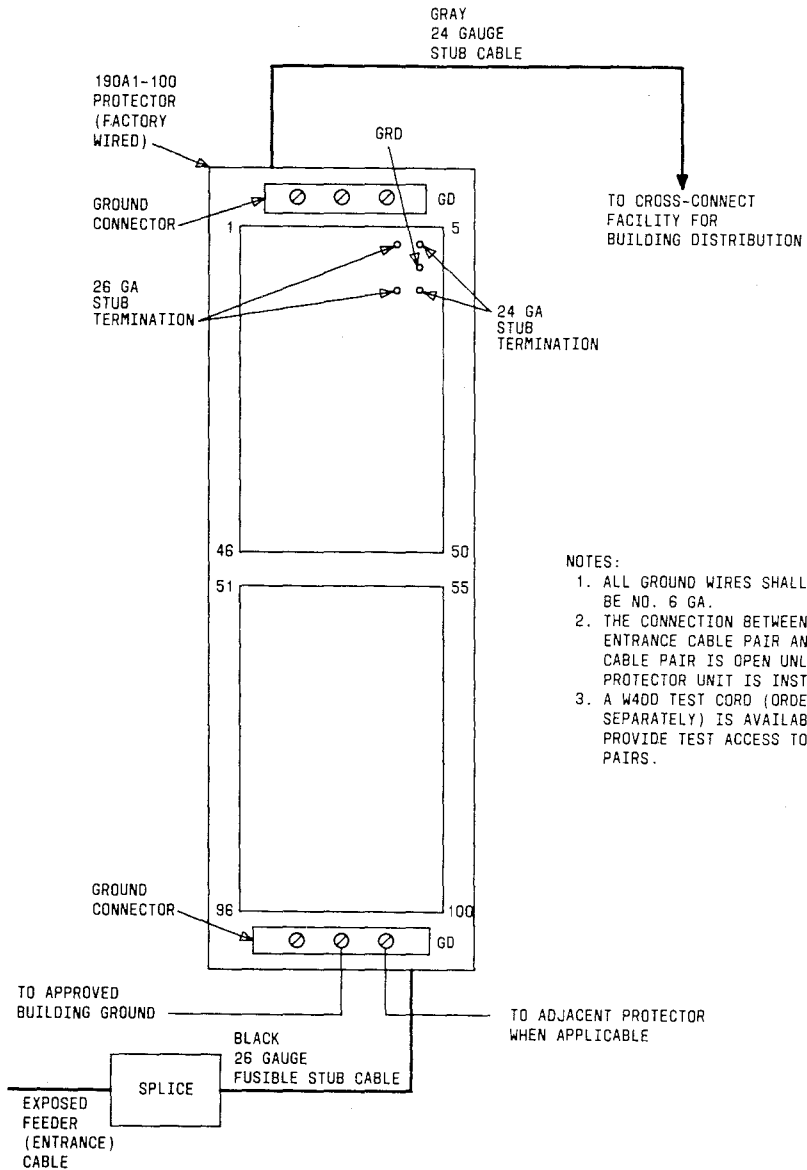

Fig. 3—190-Type Protector—Typical Wiring Diagram
2.02 The 190-type protectors are available in 50- and 100-pair sizes. Specifications of these protectors are listed in Table A. Figure 3 shows a typical wiring diagram of the protector.